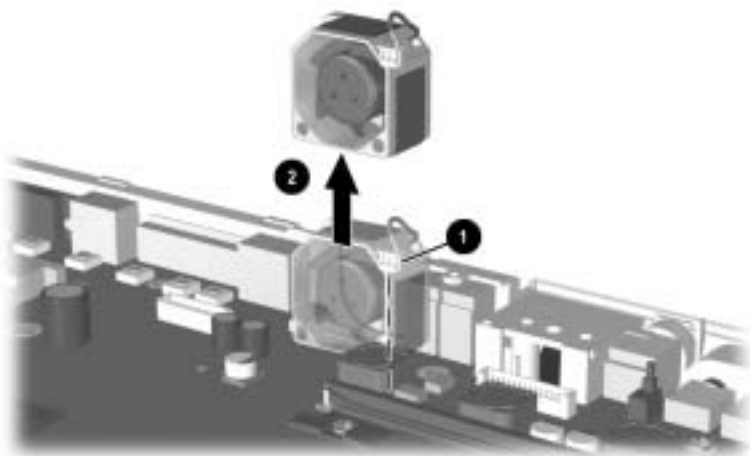

Figure 5-41. Removing the Fan
2. Disconnect the fan cable ❶ from the system board (Figure 5-41).
3. Remove the fan ❷ from the base enclosure.